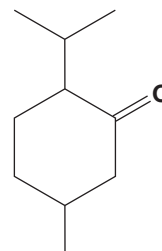

Figure 2.7 ▲
- 5 What is the molecular formula of menthone (Figure 2.7)?